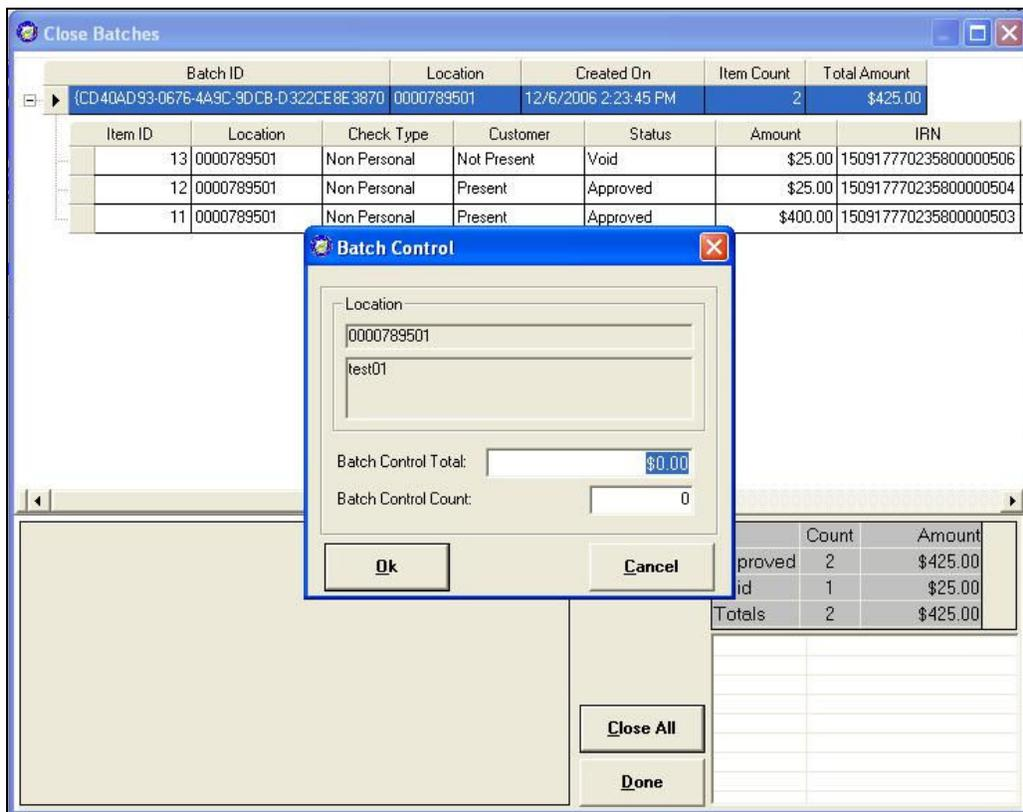

Figure 6.65
5. Clicking 'Yes' may return a Batch Control window if the configuration settings are set to balance the batch at batch close. (Figure 6.65) If so, key in the Batch Control Total and Batch Control Count and click the 'OK' button. If a discrepancy is encountered, please refer to the 'Batch Balancing Screen' section earlier in this chapter.